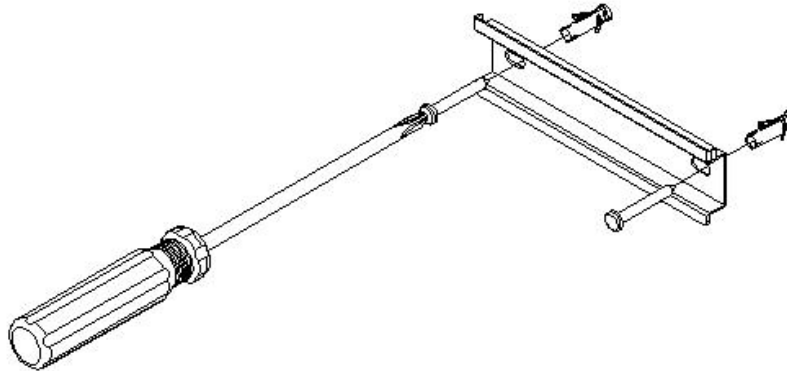

Fig 3-14 Securing guide rail on bearing surface
(1) Drill holes on the chosen cabinet and secure DC power guide rail on bearing surface, as shown in Figure 3-14.